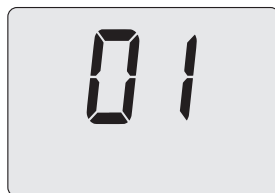

Figure 5.27
- By using buttons 15 or 16 (Figure 5.23) it is possible to modify the value of parameter A21 (Figure 5.27).